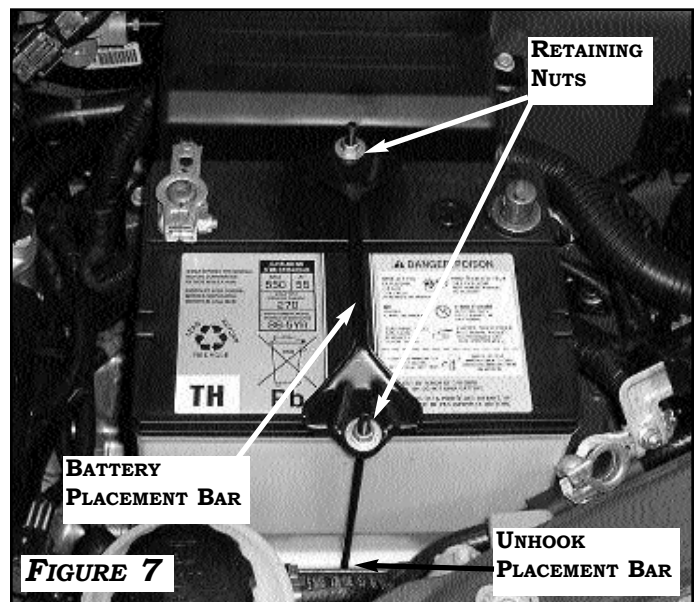

FIGURE 7
3. LOOSEN (2) TWO 10MM NUTS RETAINING THE BATTERY PLACEMENT BAR AND REMOVE. REMOVE BATTERY. REMOVE (4) 12MM BOLTS FROM BATTERY TRAY AND REMOVE TRAY FROM VEHICLE. **FIGURE 7**